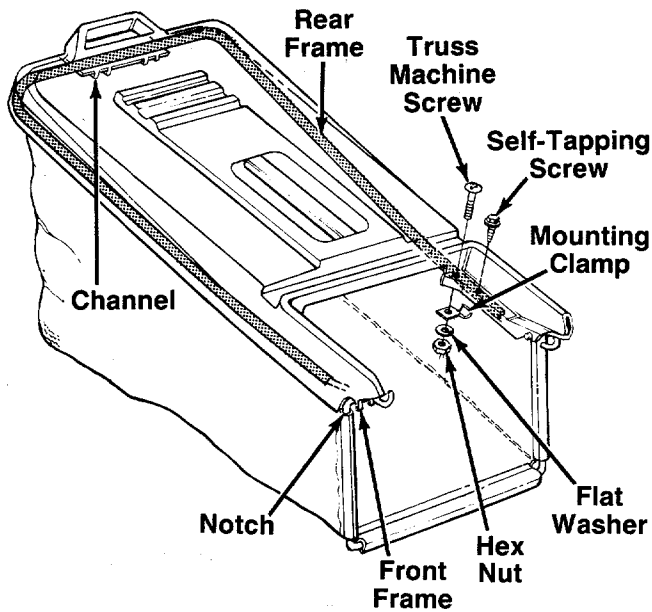

FIGURE 16.
4. Attach the hardtop cover to the grass catcher as follows. See figure 16.
- Attach cover to frame using self-tapping screws as shown in figure 16.